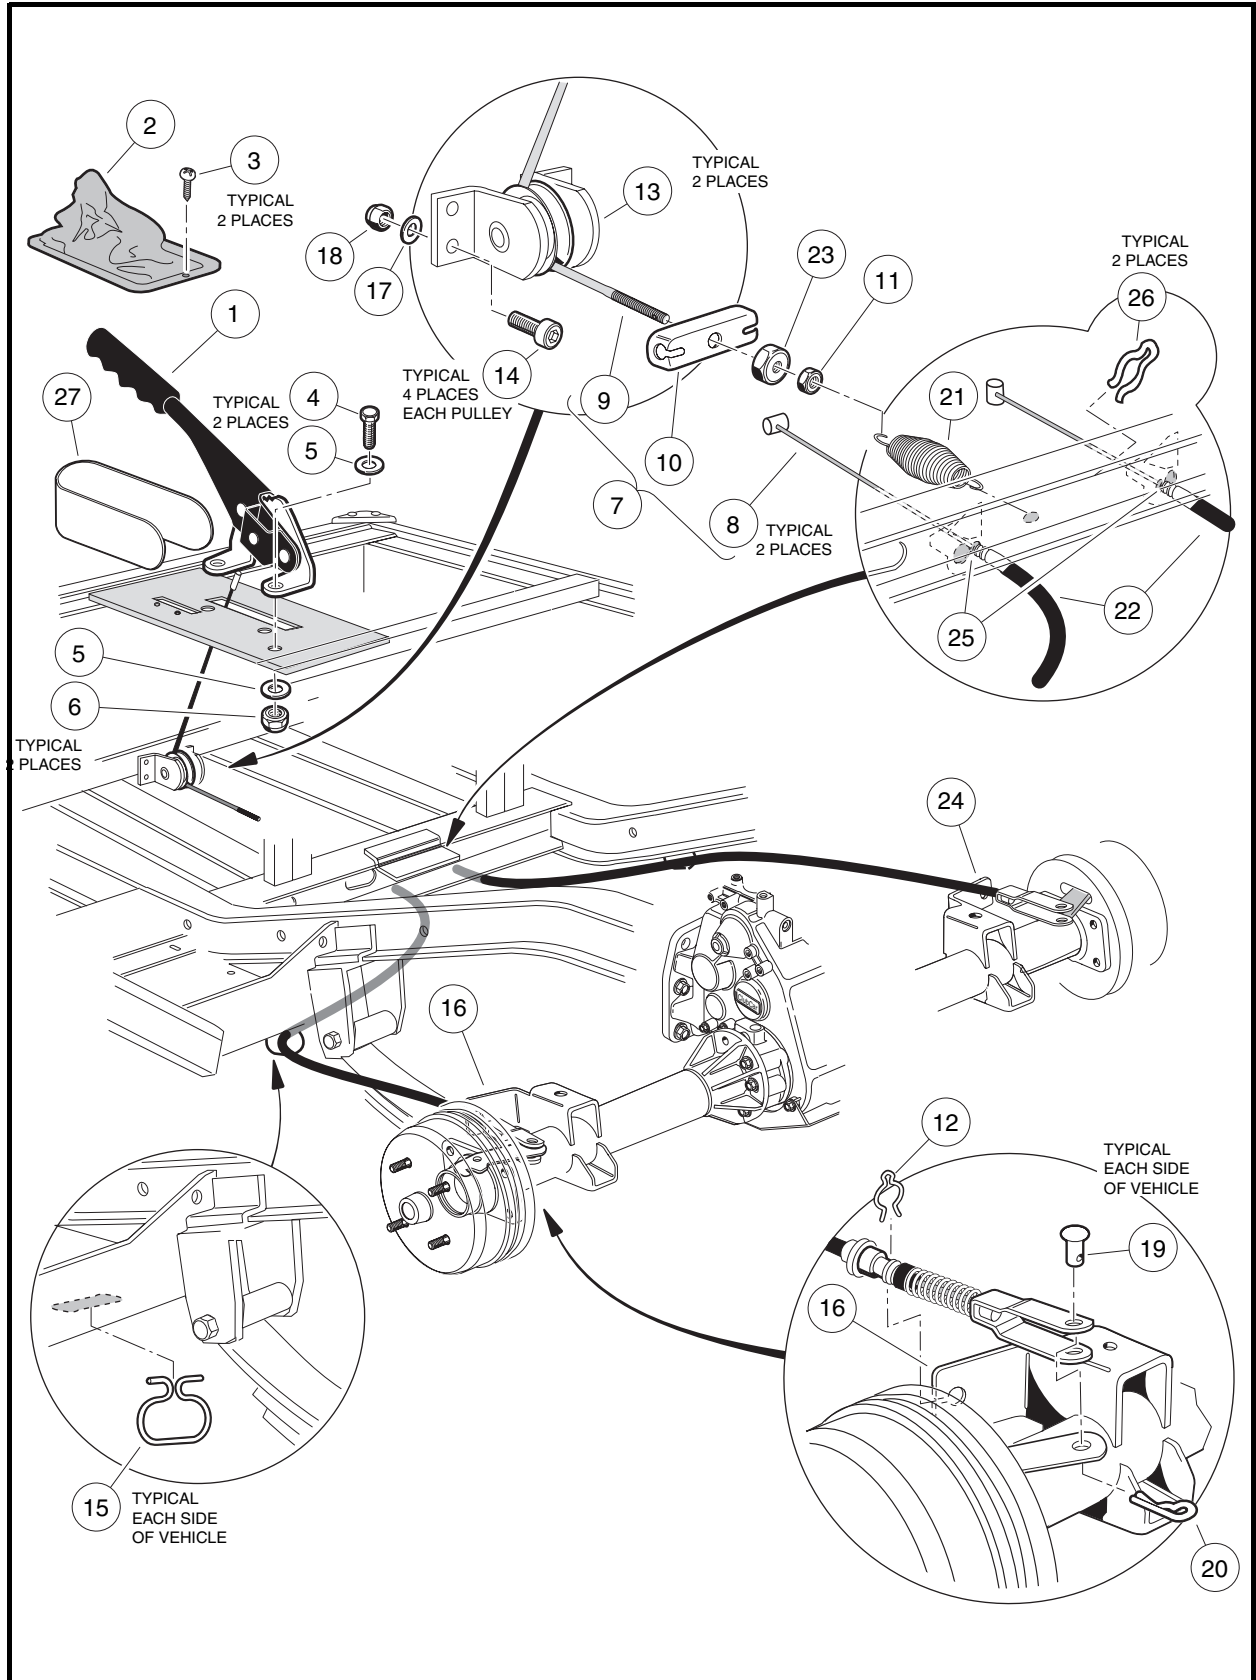

Figure 6-27 Park Brake System
2. Remove the two screws (3) that secure the park brake boot (2) to the seat support (**Figure 6-27, Page 6-36**).
3. Slide the boot (2) off of the park brake handle (1).
4. Remove the boot shield (27) from the park brake handle.
5. Remove the equalizer spring (21) from the equalizer cable (9).
6. Remove the equalizer jam nut (11) and conical nut (23) from the cable end (9).
7. Remove the end of the park brake cable from handle (1) by pushing the equalizer cable in an upward direction and pulling the cable end toward the passenger side of the vehicle.
2. Remove the four #10-24 x 3/4-inch socket-head screws (14), locknuts (18) and washers (17) from frame and remove the assembly (**Figure 6-27, Page 6-36**).
1. Loosen the equalizer jam nut (11) and the conical nut (23) to provide slack in the wheel brake cables (**Figure 6-27, Page 6-36**).
3. Remove the cable clip (26) from a wheel brake cable (22) at the vehicle frame (25) (**Figure 6-27, Page 6-36**).
4. Remove a park brake cable clip (12), hair spring cotter pin (20) and clevis pin (19).
6. Slide the cable through the frame hanger (15) and remove the cable from the vehicle.
1. Align the equalizer cable pulley assembly (13) with the mounting holes in the frame (**Figure 6-27, Page 6-36**).
2. Install the four 10-24 x 3/4-inch socket-head screws (14), flat washers (17) and locknuts (18) and tighten to 54 in-lb (6.1 N·m).
1. Thread the equalizer cable (9) up between the pulley and frame, through the top seat support slot and hook the end of the cable into the handle (1) clevis slot from the passenger side (**Figure 6-27, Page 6-36**).
2. Assemble the equalizer bracket (10) onto the threaded end of the equalizer cable (9).
3. Attach the conical nut (23) and equalizer jam nut (11) to the threaded end of the equalizer cable.
4. Attach the equalizer spring (21) from the equalizer cable to the frame.
5. Slide the boot shield (27) around the park brake handle.
6. Slide the boot (2) over the handle and down around the boot shield and onto the seat support.
7. Attach the boot (2) using two 5/16-18 phillips head screws (3).
1. Slide a cable (22) through the frame hanger (15) (**Figure 6-27, Page 6-36**).
2. Attach the cable clevis and wheel brake lever using the clevis pin (19) and hair spring cotter pin (20).
3. Attach the cable (22) to the cable support bracket (16 or 24), using a wire clip (12).
4. Attach the opposite end of cable (22) through a frame bracket notch (25) and secure with a wire clip (26).
5. Pull the end of the brake cable (8) up and into a keyhole opening in the park brake equalizer bracket (10).
2. Remove the two bolts (4), four washers (5) and two locknuts (6) from the park brake handle (**Figure 6-27, Page 6-36**).
3. Remove the park brake handle (1) from the seat support.
1. Attach the handle (1) to the seat support using two 3/8-16 x 1-1/4-inch hex-head bolts (4), 3/8 flat washers (5) and 3/8-16 locknuts (6) (**Figure 6-27, Page 6-36**). Tighten the nuts to 23 ft-lb (31.4 N·m).
3. Loosen the equalizer jam nut (11) and the conical nut (23) to provide slack in the wheel brake cables (**Figure 6-27, Page 6-36**).
5. With the park brake released (down), tighten the conical nut (23) until significant resistance is observed in the equalizer cable in order to fully lock the brakes (**Figure 6-27, Page 6-36**).